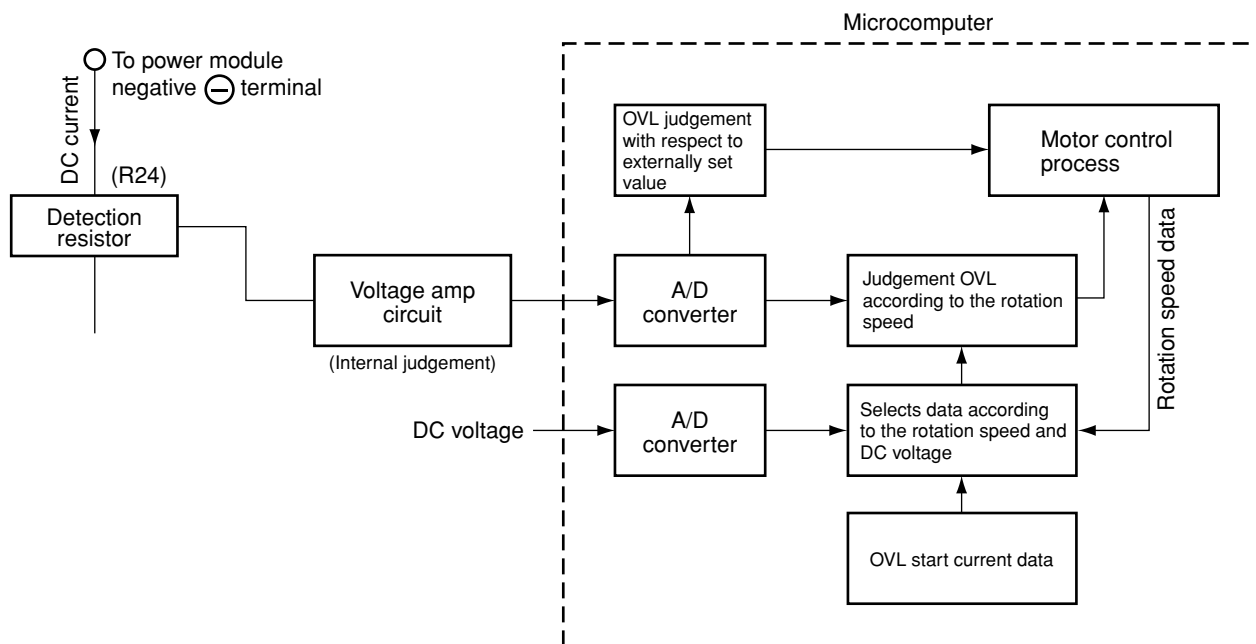
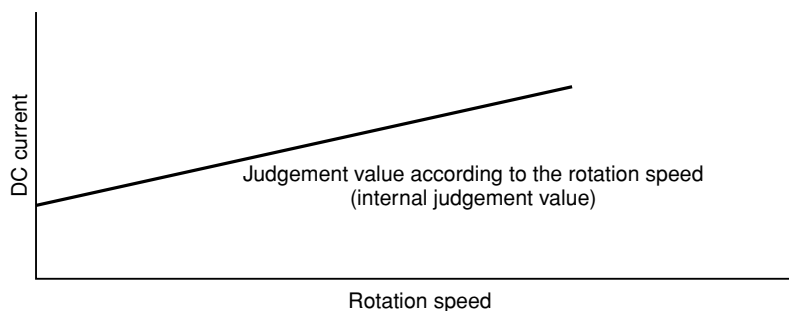

Fig. 8-4 Overload Control System Configuration
Fig. 8-5
- As shown in diagram, if current exceeding 21A (27A for RAC-50NH4) flows, voltage at point (A) recognized by detecting resistor is input to pin (10) of SPM2 – HIC, and voltage divided by R41 and R43 is input to pin (9) of IC1. Since threshold of IC1 is exceeded in this case, Lo signal is input from pin (8) (Voltage at point (B)). When Lo signal is input to pin (17) of microcomputer, microcomputer stops drive output.
(2) Overload control circuit (OVL control circuit)
- Fig. 8-4 shows the overload control system configuration and Fig. 8-5 is a characteristic diagram of overload judgement values. There are two judgement methods-external judgement which compares the externally set value with the DC current value regardless of the rotation speed and internal judgement which compares the set value that varies according to the rotation speed programmed in the microcomputer software with the DC current value.